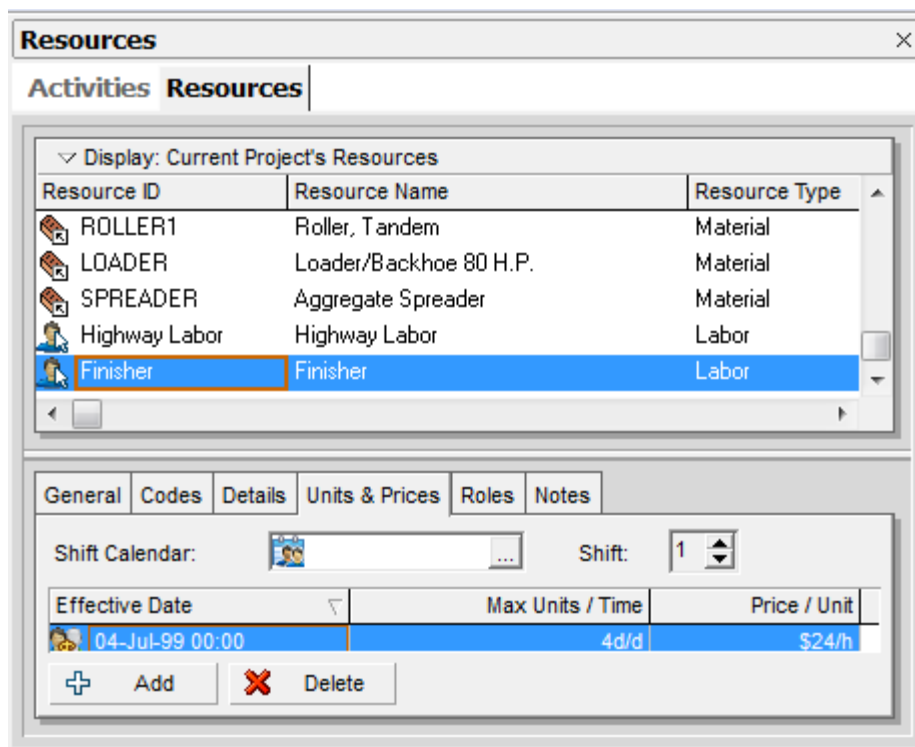

Figure 12, Maximum Resource Assignment Settings
1. **Resource limits.** Look for obvious errors in the maximum resources list like that as shown in Figure 12 below. Limits should not be shockingly low, certainly never zero. Confirm the unit of measurement. Perhaps the resource requirement was assigned in hours but the limits were set using crew days. Resource limits should be set to a fraction above required to allow for 'barely too much' requirement that would have been accommodated by overtime, weekend work, or some other on-site technique. The over-allocation parameter may be used for this purpose.